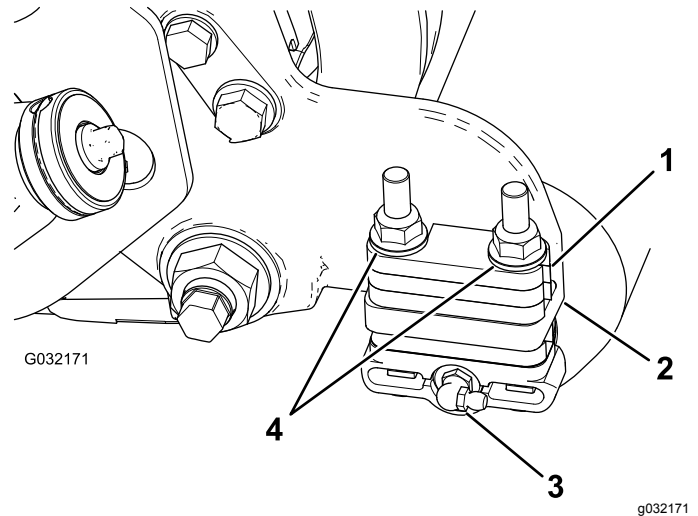

Figure 3
1. Remove the grease fitting for the roller from the side of the cutting unit that has the roller-brush housing (Figure 3).
2. Install the 90-degree grease fitting so that it faces rearward (Figure 3).
1. Remove the 2 flange locknuts securing each roller bracket to the side plates, as well as any **6 mm (1/4 inch) spacers positioned on the top side of the side-plate mounting flange** (Figure 3).